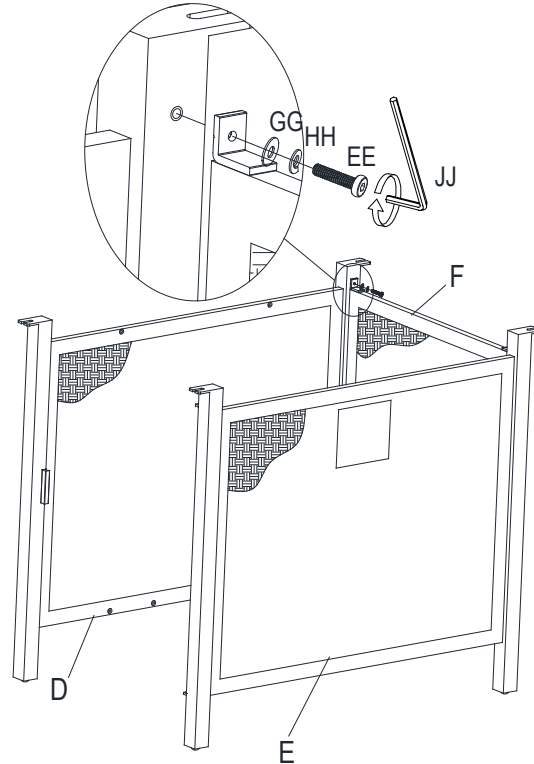

Figure 2
2. Loosely attach Back Panel (F) to the Left Side Panel (D) and the Right Side Panel (E) by bolts (EE) through lock washers (HH), flat washers (GG), using Allen wrench (JJ). See figure 2.